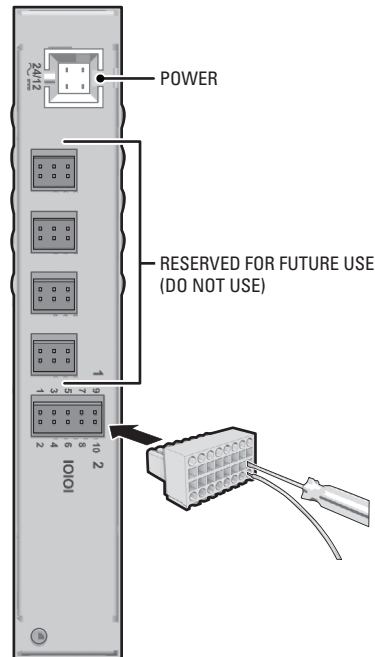

Figure 11. Wiring the Terminal Block
Figure 11 shows how to wire the terminal block and connect it to the data interface. Note that the terminal block can be attached to the data interface only in the proper position.
2. Connect the cable's individual wires to the terminal block on the rear panel of the data interface (refer to Figure 11). Use the small screwdriver that is provided with the data interface to open the clamp for a particular lead.
4. Connect the wires at one end to the terminal block on the rear panel of the data interface (refer to Figure 11 and Table F on page 39). Use the small screwdriver that is provided with the data interface to open the clamp for a particular lead.